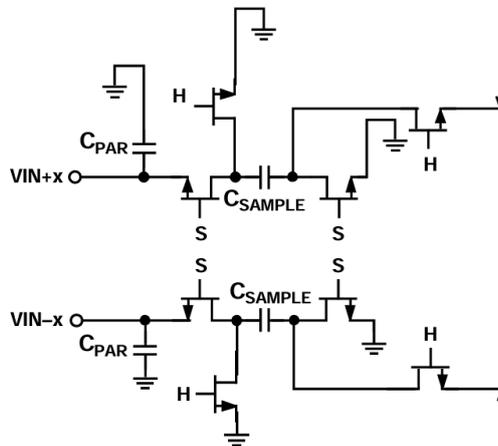

Figure 18. Switched capacitor input circuit
The input circuitry switches between sample and hold modes based on the clock signal (see Figure 18). When the input circuitry switches to sample mode, the signal source must be able to charge the sampling capacitor and complete the build-up within half a clock cycle. A small resistor is connected in series at each input to help reduce peak transient current injected from the driver output stage. Furthermore, low-Q inductors or ferrite beads can be used on each side of the inputs to reduce the high differential capacitance at the analog inputs, thereby maximizing the ADC's bandwidth. Low-Q inductors or ferrite beads must be used when driving the converter front end at high-frequency (IF). A differential capacitor or two single-ended capacitors can be used at the inputs to provide a matched passive network. This ultimately forms a low-pass filter at the inputs to limit unwanted broadband noise.